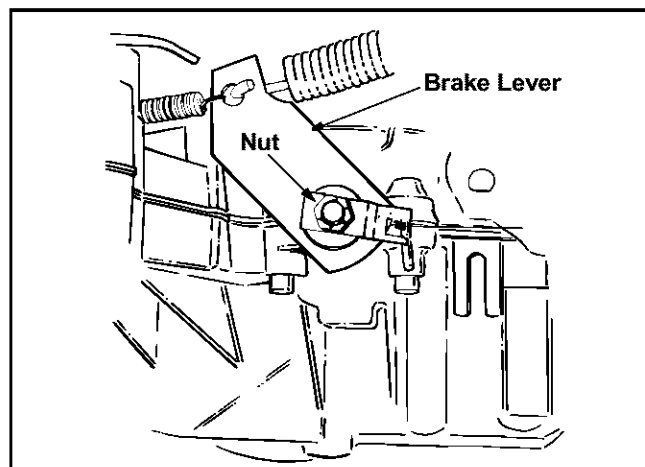

Figure 18
- To adjust the brake, adjust the nut so the brake starts to engage when the brake lever is 1/4" to 5/16" away from the axle housing. See Figure 18.